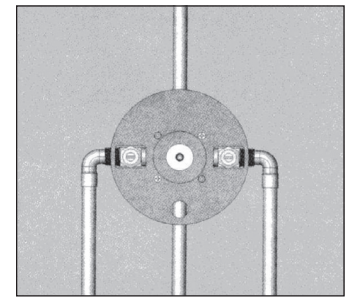

Figure 1
1. Rough valve body into wall, connecting piping to 1/2" female copper sockets or 1/2" male I.P. nipples (see **Figure 1**). **Important: note "UP" and "DOWN" markings on back of valve.**